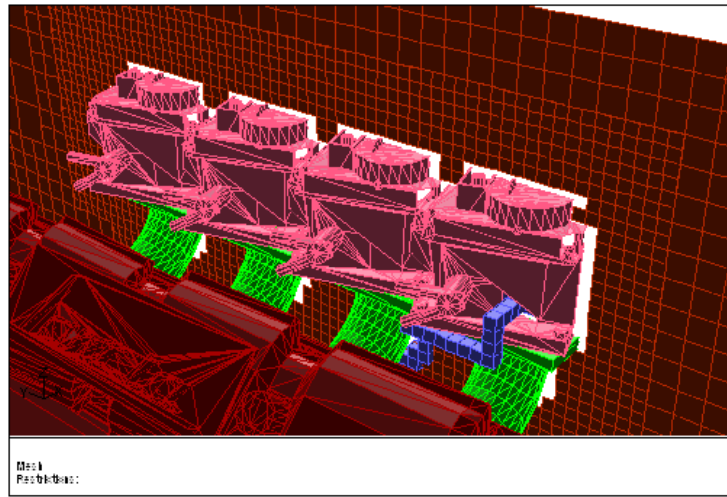

Figure 7.15: Display of Geometry with the Traced Path
- iii. Click Trace (Figure 7.15).
*You may need to switch between Positive and Negative in the Pan Regions panel to obtain the display in Figure 7.15.*